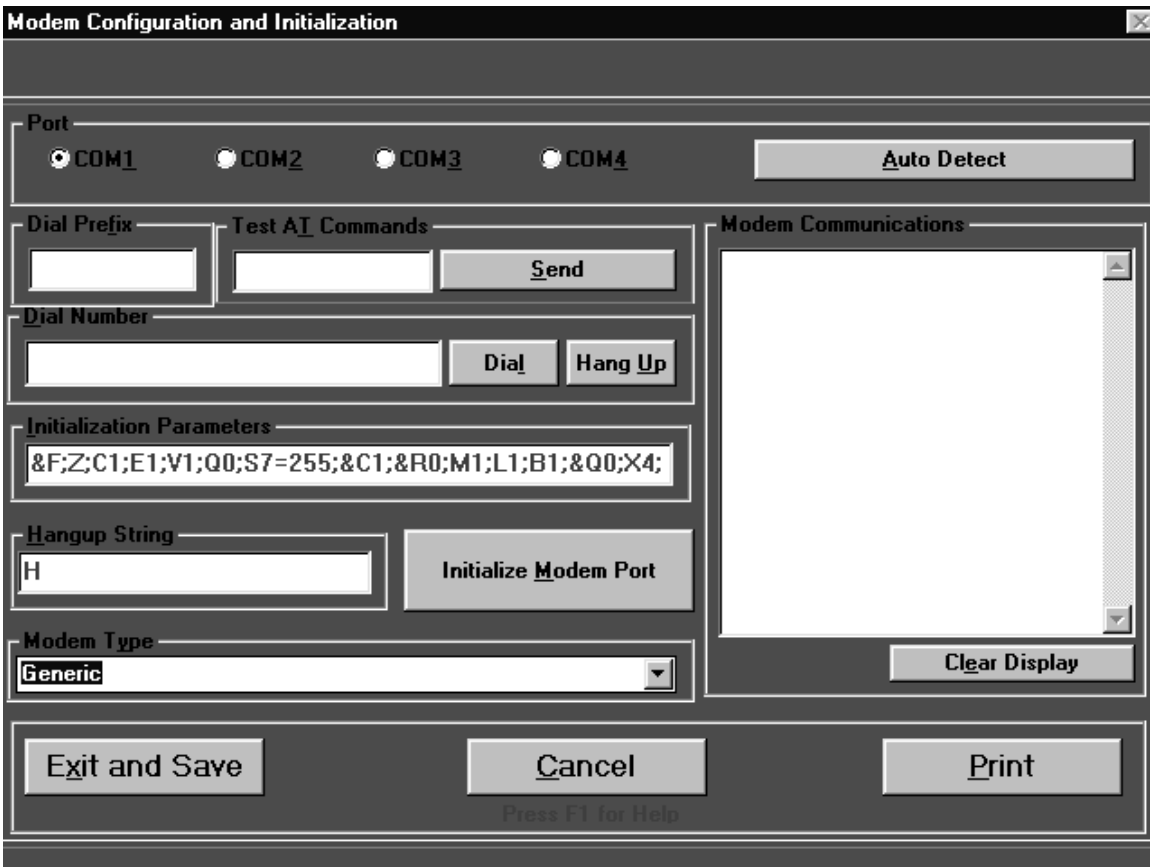

Figure 3-7: Configure Communications
The PK-5024UD software must be configured for compatibility with the user's service terminal (PC) communications ports and modem setup. Clicking on the Configure Communications button or pressing ALT + M in the Main Menu will display the options screen shown in Figure 3-7. Use the mouse pointer to click on the appropriate selections or use the Tab key to move from field to field and the Arrow keys to move within fields to make selections.